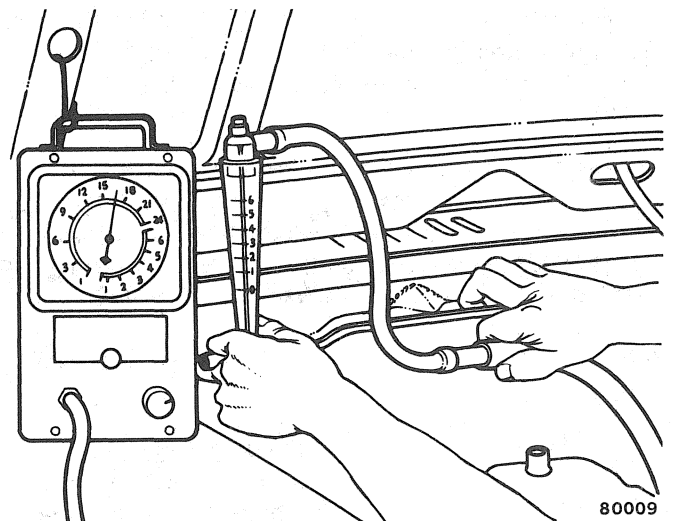

Fig. 1J-151 PCV Valve Test
(1) Remove valve from grommet in cylinder head cover (four- and six-cylinder engines) or manifold vacuum source hose (eight-cylinder engine). Connect plastic hose of PCV Valve Tester J-23111 to valve (fig. 1J-151).